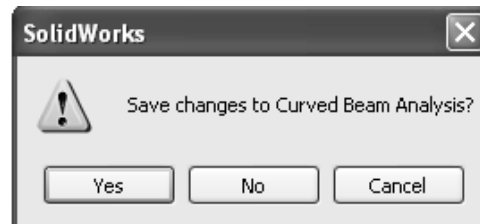

Figure 27 – **SolidWorks** window requests user confirmation whether or not to save changes to the current analysis.
- The **SolidWorks** window, Fig. 27, opens and asks, “**Save changes to Curved Beam Analysis?**” Select the **[Yes]** button. This action saves all results files along with other items specified during this solution.